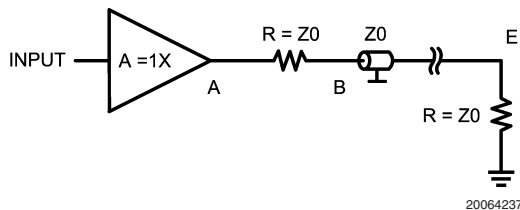
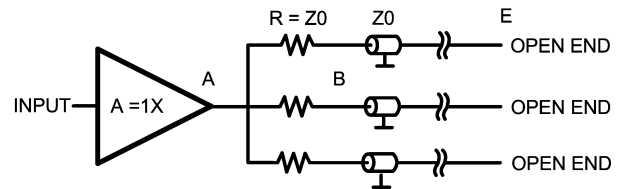
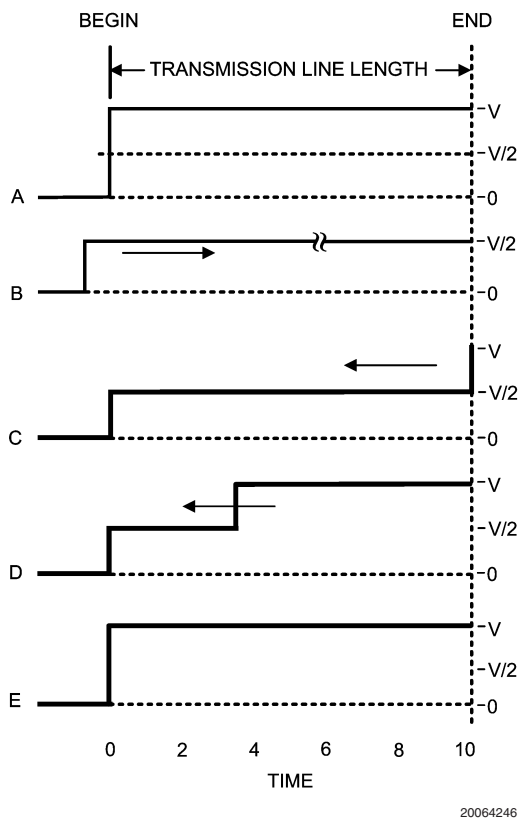

FIGURE 1.
FIGURE 3.
FIGURE 6.
- Use one buffer to drive one transmission line (see *Figure 1*)
- Use one buffer to drive several transmission lines each driving a different receiver. (see *Figure 3*)
In most cases, it is unrealistic to think that we can place a driver or buffer so close to the load that we don't need a transmission line to transport the signal. The pcb trace length between a driver and the load may affect operation depending upon the operating frequency. Sometimes it is possible to do measurements by connecting the DUT directly to the analyzer. As frequencies become higher the short lines from the DUT to the analyzer become long lines. When this happens there is a need to use transmission lines. The next point to examine is what happens when the load is connected to the transmission line. When driving a load, it is important to match the line and load impedance, otherwise reflections will occur and this phenomena will distort the signal. If a transient is applied at $T = 0$ (*Figure 6*, trace A) the resultant waveform may be observed at the start point of the transmission line. At this point (begin) on the transmission line the voltage increases to (V) and the wave front travels along the transmission line and arrives at the load at $T = 10$. At any point across along the line $I = V/Z_0$, where Z_0 is the impedance of the transmission line. For an applied transient of 2V with $Z_0 = 50\Omega$ the current from the buffer output stage is 40mA. Many vintage op amps cannot deliver this level of current because of an output current limitation of about 20mA or even less. At $T = 10$ the wave front arrives at the load. Since the load is perfectly matched to the transmission line all of the current traveling across the line will be absorbed and there will be no reflections. In this case source and load voltages are exactly the same. When the load and the transmission line have unequal values of impedance a different situation results. Remember there is another basic which says that energy cannot be lost. The power in the transmission line is $P = V^2/R$. In our example the total power is $2^2/50 = 80mW$. Assume a load of 75Ω. In that case a power of 80mW arrives at the 75Ω load and causes a voltage of the proper amplitude to maintain the incoming power.
Many applications, such as video, use a series resistance between the driver and the transmission line (see Figure 1). In this case the transmission line is terminated with the characteristic impedance at both ends of the line. See Figure 6 trace B. The voltage traveling through the transmission line
Another way to reach several points via a transmission line is to start several lines from one buffer output (see Figure 3). This is possible only if the output can deliver the needed current into the sum of all transmission lines. As can be seen in this figure there is a series termination used at the beginning of the transmission line and the end of the line has no termination. This means that only the signal at the endpoint is usable because at all other points the reflected signal will cause distortion over the line. Only at the endpoint will the measured signal be the same as at the startpoint. Referring to Figure 6 trace C, the signal at the beginning of the line has a value of $V/2$ and at $T = 0$ this voltage starts traveling towards the end of the transmission line. Once at the endpoint the line has no termination and 100% reflection will occur. At $T = 10$ the reflection causes the signal to jump to $2V$ and to start traveling back along the line to the buffer (see Figure 6 trace D). Once the wavefront reaches the series
termination resistor, provided the termination value is Z_0 , the wavefront undergoes total absorption by the termination. This is only true if the output impedance of the buffer/driver is low in comparison to the characteristic impedance Z_0 . At this moment the voltage in the whole transmission line has the nominal value of 2V (see Figure 6 trace E). If the three transmission lines each have a different length the particular point in time at which the voltage at the series termination resistor jumps to 2V is different for each case. However, this transient is not transferred to the other lines because the output of the buffer is low and this transient is highly attenuated by the combination of the termination resistor and the output impedance of the buffer. A simple calculation illustrates the point. Assume that the output impedance is 5Ω . For the frequency of interest the attenuation is $V_B/V_A=55/5=11$, where A and B are the points in Figure 3. In this case the voltage caused by the reflection is $2/11 = 0.18V$. This voltage is transferred to the remaining transmission lines in sequence and following the same rules as before this voltage is seen at the end points of those lines. The lower the output resistance the higher the decoupling between the different lines. Furthermore one can see that at the endpoint of these transmission lines there is a normal transient equal to the original transient at the beginning point. However at all other points of the transmission line there is a step voltage at different distances from the startpoint depending at what point this is measured (see trace D).